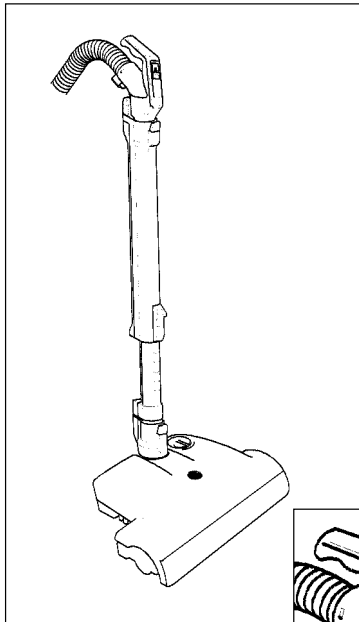

Figure 1
## Starting The Machine - Figures 1 & 2
A. Before turning on your canister, make sure that the vacuum handle is in its upright locked position (figure 1).
B. When the power head is switched on with the handle in the upright locked position (see figure 1 above), the brush roller will not spin. To release the power head from the upright locked position, gently place your foot on the power head for leverage and lower the handle into the operating position (figure 3). The brush roller will then start spinning. The amber indicator light may flicker for a few seconds when you lower the handle - this is normal.